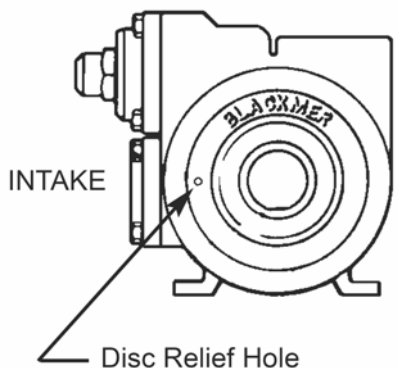

Figure 11 - Disc Relief Hole Location (4" pumps)
Place the disc (71) against the head (20) with the seal cavity inward and the disc relief hole located so that when the head is mounted on the pump with the "Blackmer" name in an upright position, the disc relief hole will be at the pump intake, (see Figure 11). Install and tighten the disc machine screws and lockwashers (71A and 71B). The drive tangs of the seal jacket should protrude through the center hole of the disc.